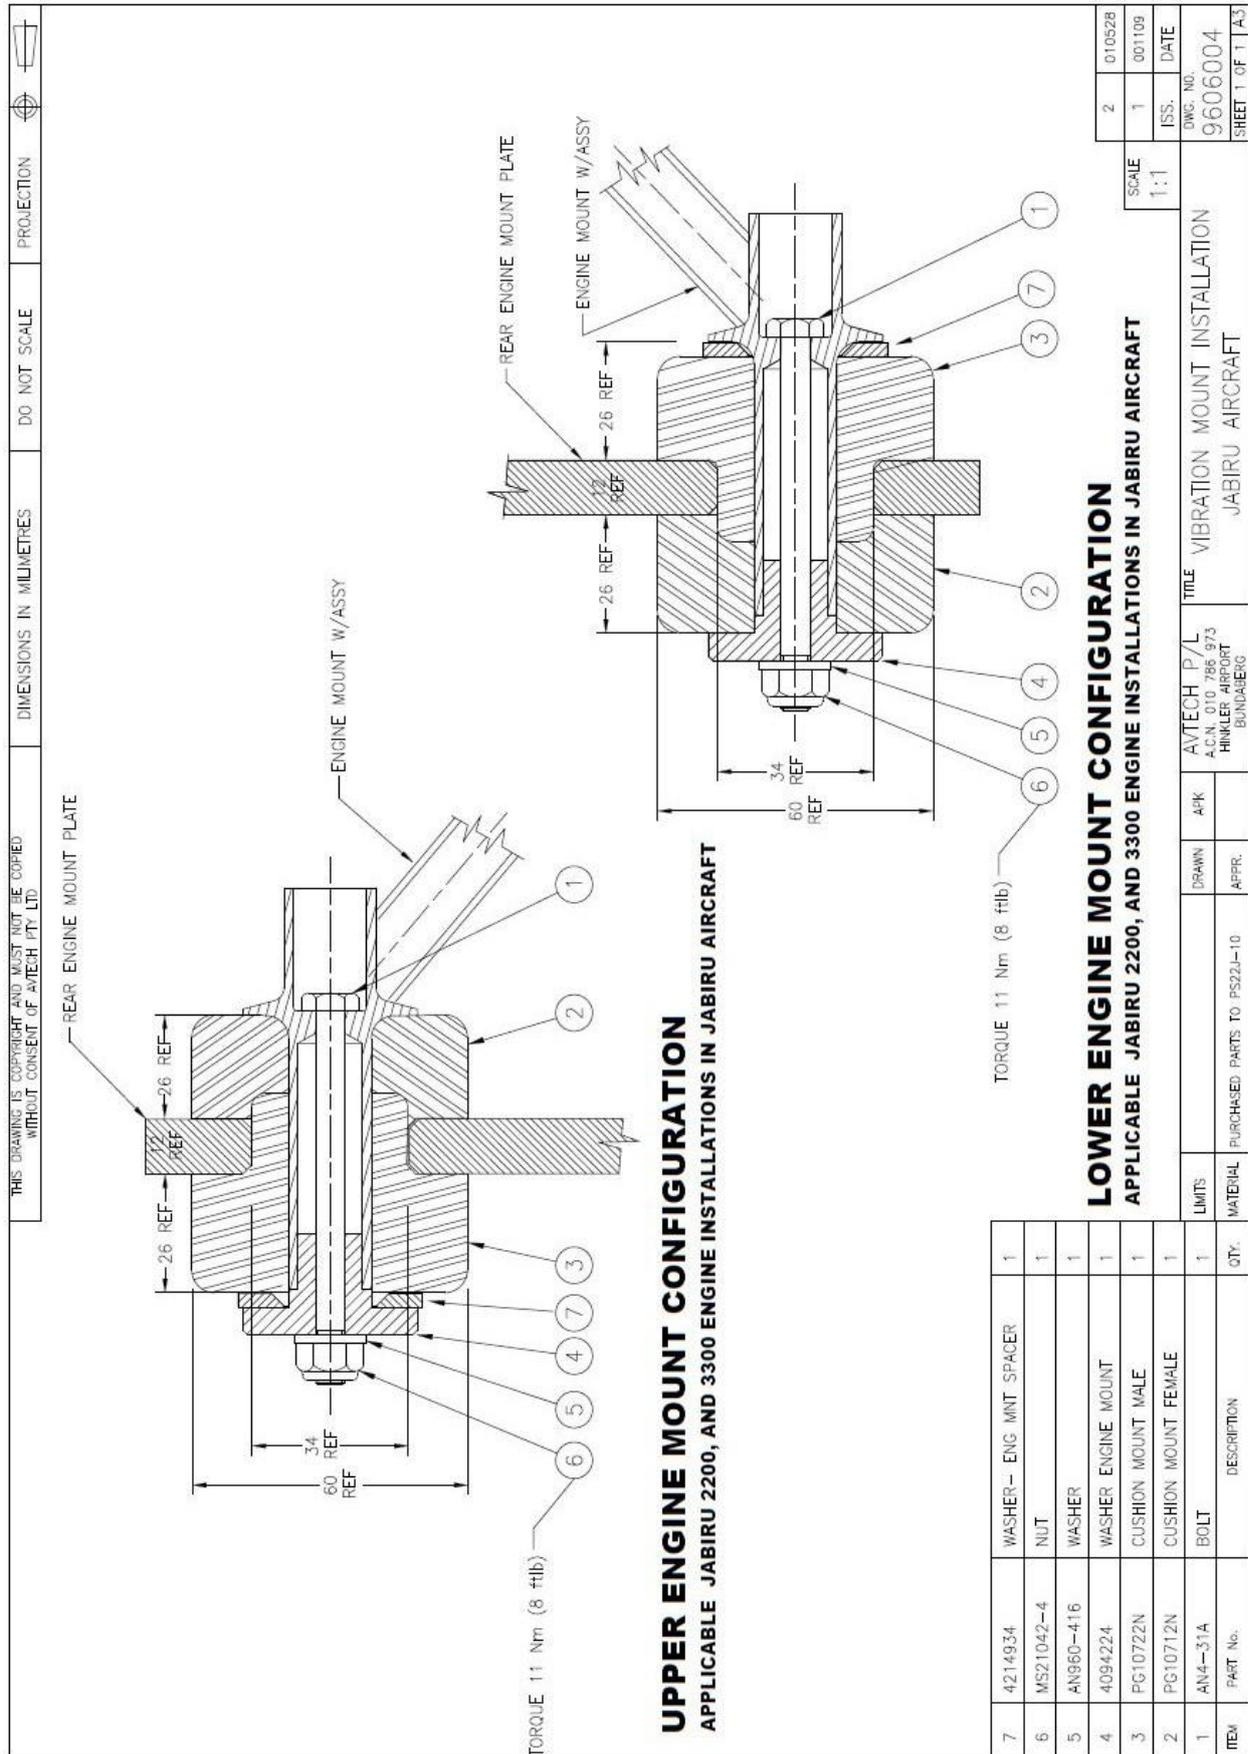

Figure 45. Engine Mount Detail
- Attach male engine mount rubbers to all engine mount pins on the engine mount. Place an AN4-31A bolt through each mount. Note that an engine mount spacer washer is fitted between the male rubber & the lower engine mount pins (Refer to Figure 45 below).
- The lower engine mount rubbers are assembled in the same way, except the male engine mount rubber is fitted to the engine mount pins first. Refer to Figure 45 below.